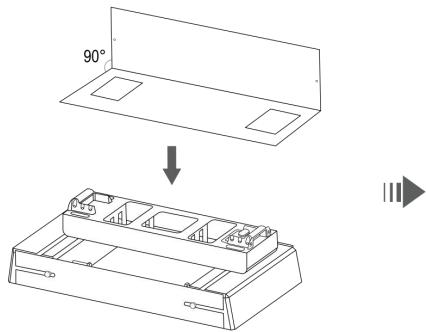
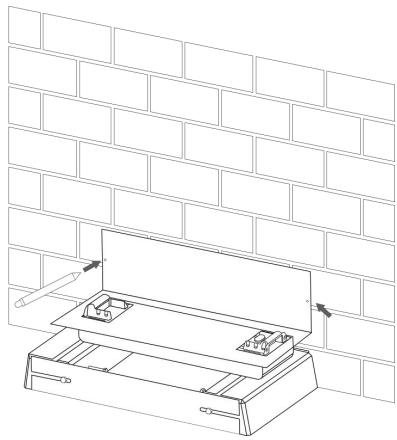

Figure.1
Figure.2
3. Place the auxiliary measurement tool over the base and mark positions of two assembly holes (Figure.1&Figure.2). Drill holes ( $\Phi=8\text{mm}$ ) on the wall using an impact drill(Figure.3). **After each battery pack is put in place, locate and drill holes in the same way.**